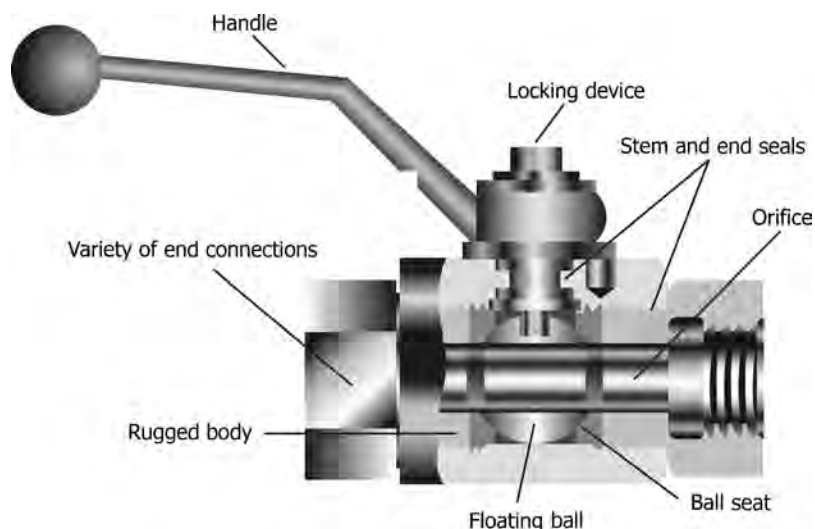

FIGURE 3.8 Ball valve. (Courtesy: Vaishnavi Engineering.)
- Figure 3.8 illustrates a typical ball valve, showing different parts.